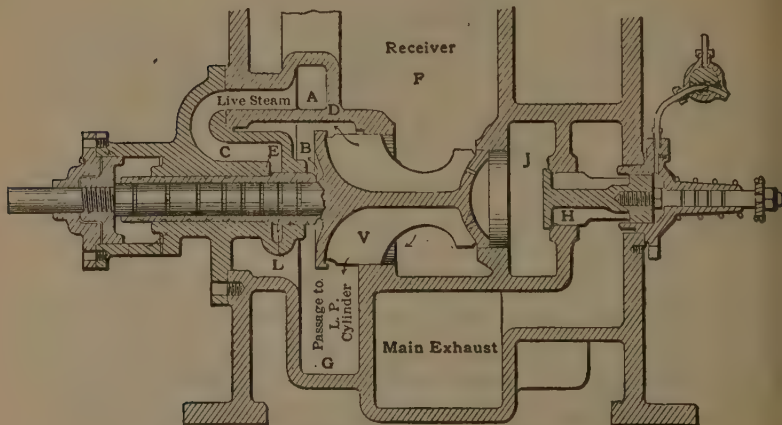

Fig. 346. Compound Position of Intercepting Valve.
A. Referring to Fig. 346, where it is shown in compounding position: the passage G is open to the L. P. cylinder and to
the receiver F . In starting, however, the machine starts automatically as a double H. P. engine, as live steam passes into the port C from the passage A , and enters the L. P. cylinder. There being no pressure in the receiver pipe it offers no resistance to the pressure in C on the shoulder E of the reducing valve L (at the left of the cut) which is a sleeve on the stem of the reducing valve V . This latter pressure moves the valve L_1 and with it the interceptor V_1 to the right as shown in the cut; letting steam at a reduced pressure to the L. P. chest G (Fig. 347) closing the receiver F by the intercepting valve V . After one or more turns the receiver pipe F is under H. P. exhaust pressure, which forces V to the left, closes the reducer L , cuts off the steam from the port C and opens the passage from the receiver to the L. P. chest as shown in Fig. 346.